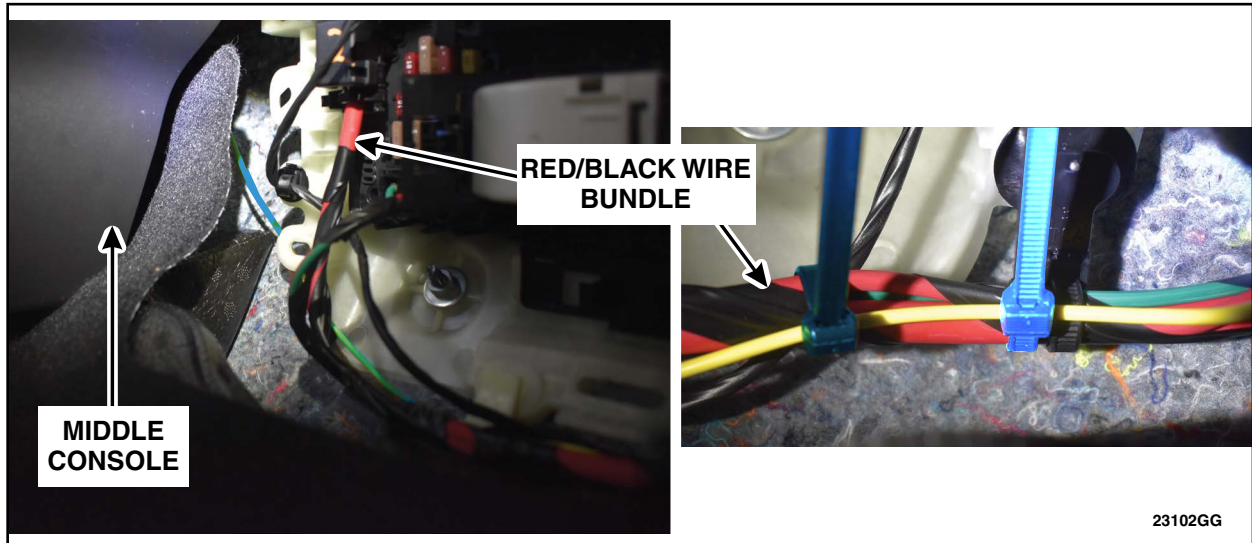

FIGURE 18
21. Route wire behind the middle console. Following the red/black wire bundle. Secure with zip ties. See Figure 18.